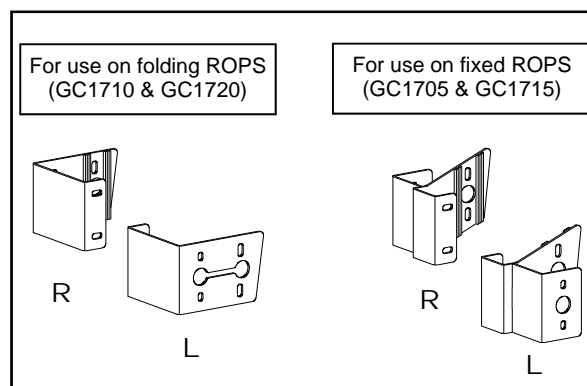

Fig. 6.1 (Roll Bar Bracket Options)
6.1 Per Fig. 6.1, select the appropriate pair of roll bar brackets for the application. Discard whichever pair is not used.